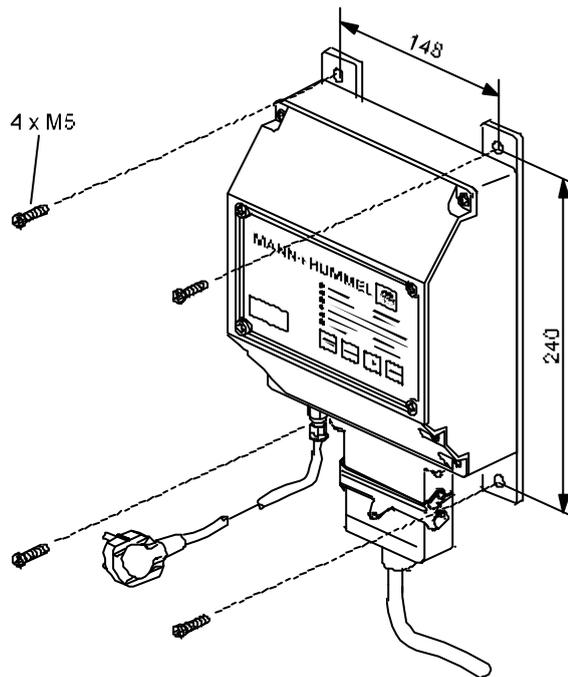

Fig. 6. Retrofitting with optional equipment and accessories
- **Attach the control (see fig. 6. Retrofitting with optional equipment and accessories**
- **Connect the control to the terminal box, using the connecting cable (see fig. 6. Retrofitting with optional equipment and accessories**